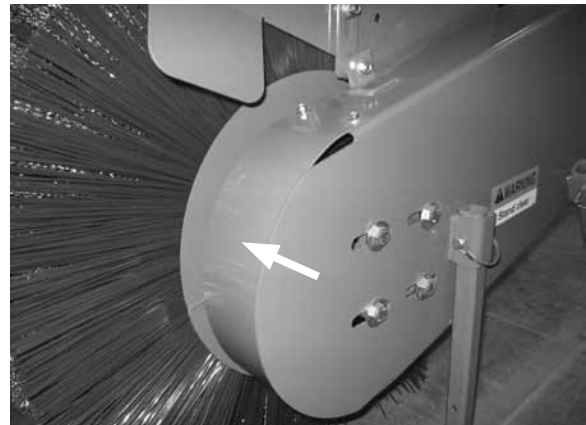

Figure 21
1. Remove the rear chain shield (Figure 21).
2. Loosen, but do not remove the four (4) bolts securing the 4 bolt bearings on both ends of the brush head assembly (Figures 21 and 22).
4. Tighten the four (4) bolts on the chain end of the brush head. (Right hand end, Figure 21).